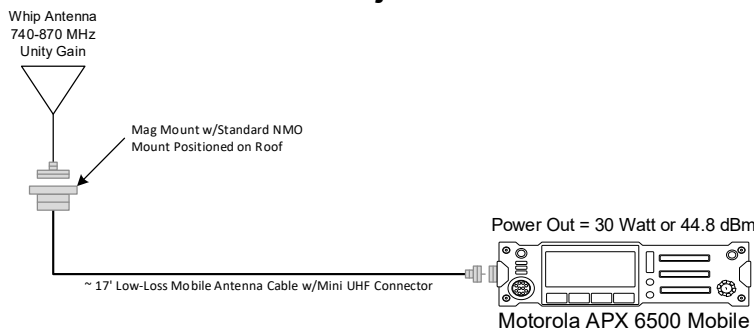

Figure 3-2: Mobile CATP Test Radio Setup Diagram
To measure BER for the APX 6500 mobile equipment configuration, the coverage test will be performed with an APX 6500 mobile radio connected to a unity gain antenna mounted in the center of the roof at least 5 feet high with 17-foot or less of Larson RG-58/U low loss dual shield coax or Times Microwave Systems LMR-240 coax installed according to prescribed installation standards to establish an equivalent signal level performance for the defined equipment configuration. Please see Figure 3-2: Mobile CATP Test Radio Setup Diagram for the objective BER outbound configuration.
- The Voyager tool will be installed in the test vehicle, which will be driven over a route planned to cover the accessible test tiles within the defined test area. Please see Figure 3-2: Mobile CATP Test Radio Setup Diagram for the objective BER outbound configuration.
- A subjective DAQ voice re-test mobile radio installed in a representative location in each test vehicle, connected to a mobile antenna installed per the User Equipment Configuration Table 3-2: Town of Weston Coverage Acceptance Test Summary, free of obstructions and not adjacent to other large objects or metallic items which would distort the antenna pattern, will monitor TDMA voice transmissions from the fixed network radio sites. Figure 3-2: Mobile CATP Test Radio Setup Diagram for the subjective DAQ outbound configuration.
- When a test team observes that a test tile fails the objective BER test described above, the test team will increase the volume on the subjective DAQ voice re-test mobile radio and listen to the continuous talk-out audio transmission in the failed test tile for the duration of time necessary to hear the two (2) pre-recorded phrases (approximately 5-7 seconds) while moving. Depending on where the roads lie within the test tile, it may be necessary for the test team to stop or turn around before performing the subjective DAQ voice re-test in order to ensure that the test is performed while in the failed BER test tile.
Figure 3-2: Mobile CATP Test Radio Setup Diagram shows the objective BER/SSI outbound configuration for the mobile test radio and the subjective DAQ outbound configuration.